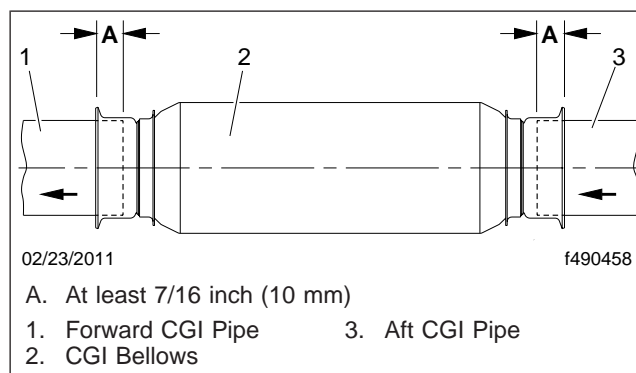

Fig. 5, CGI Bellows Installation
12. Slide the new bellows onto the aft CGI pipe as far as it will go. See Fig. 5, Ref. A. Measurement A should be at least 7/16 inch (10 mm) past the face of the flange.
16. Using the yellow marks, center the bellows between the exhaust pipes. Verify that the pipe is inserted at least 7/16 inch (10 mm) past the face of the flange. See Fig. 5, Ref. A.